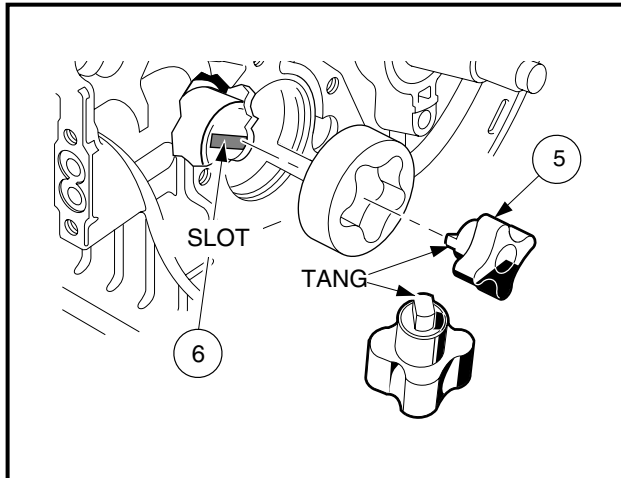

Figure 2-66 Install Inner Rotor
2. Install the inner rotor with its tang in the slot in the end of the camshaft (**Figure 2-66, Page 2-31**).